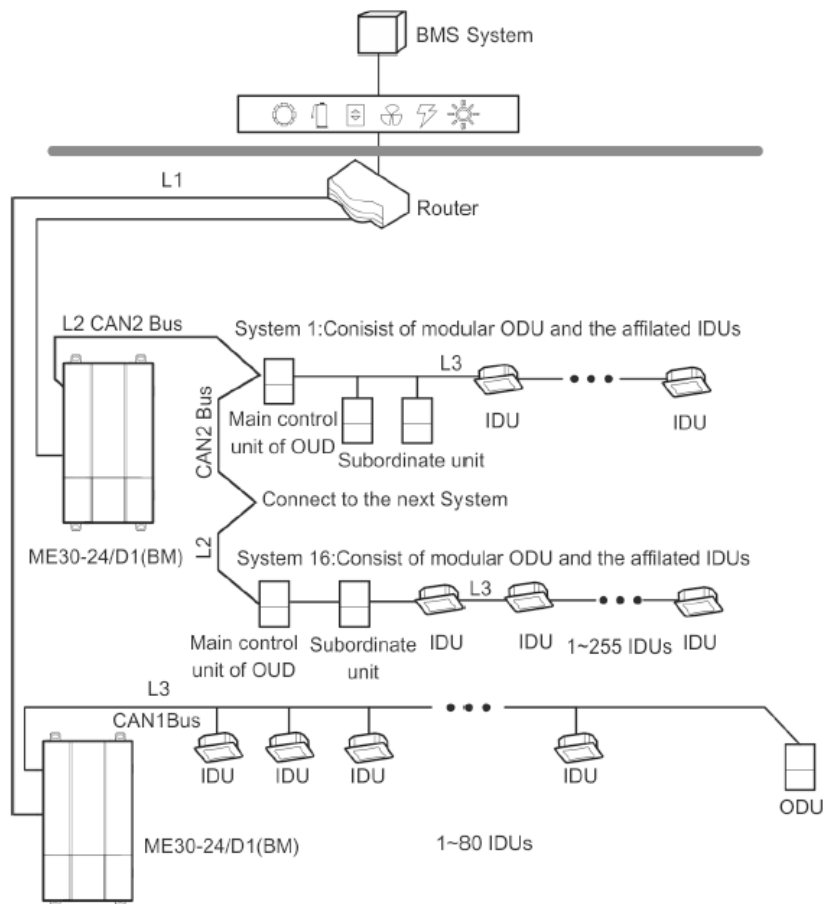

Fig. 6.2 Communication method of BACnet and communication method network topology of Modbus TCP
- **Network table:** L1 shown in Fig. 6.2 is general network cable, the gateway can connect to BMS via the network cable.
- **CAN1 network:** L3 shown in Fig. 6.2 is CAN1 bus, which consists of network and all the outdoor units and indoor units of system; one CAN1 network can connect to 80 sets of indoor units at most.
- **CAN2 network:** L2 shown in Fig. 6.2 is CAN2 bus, which consists of gateway and master outdoor unit of system; one CAN2 network can connect to 16 sets of outdoor units and 255 sets of indoor units. When the quantity of outdoor units exceeds 16 or the quantity of indoor units exceeds 255, it should be divided into two CAN2 networks.